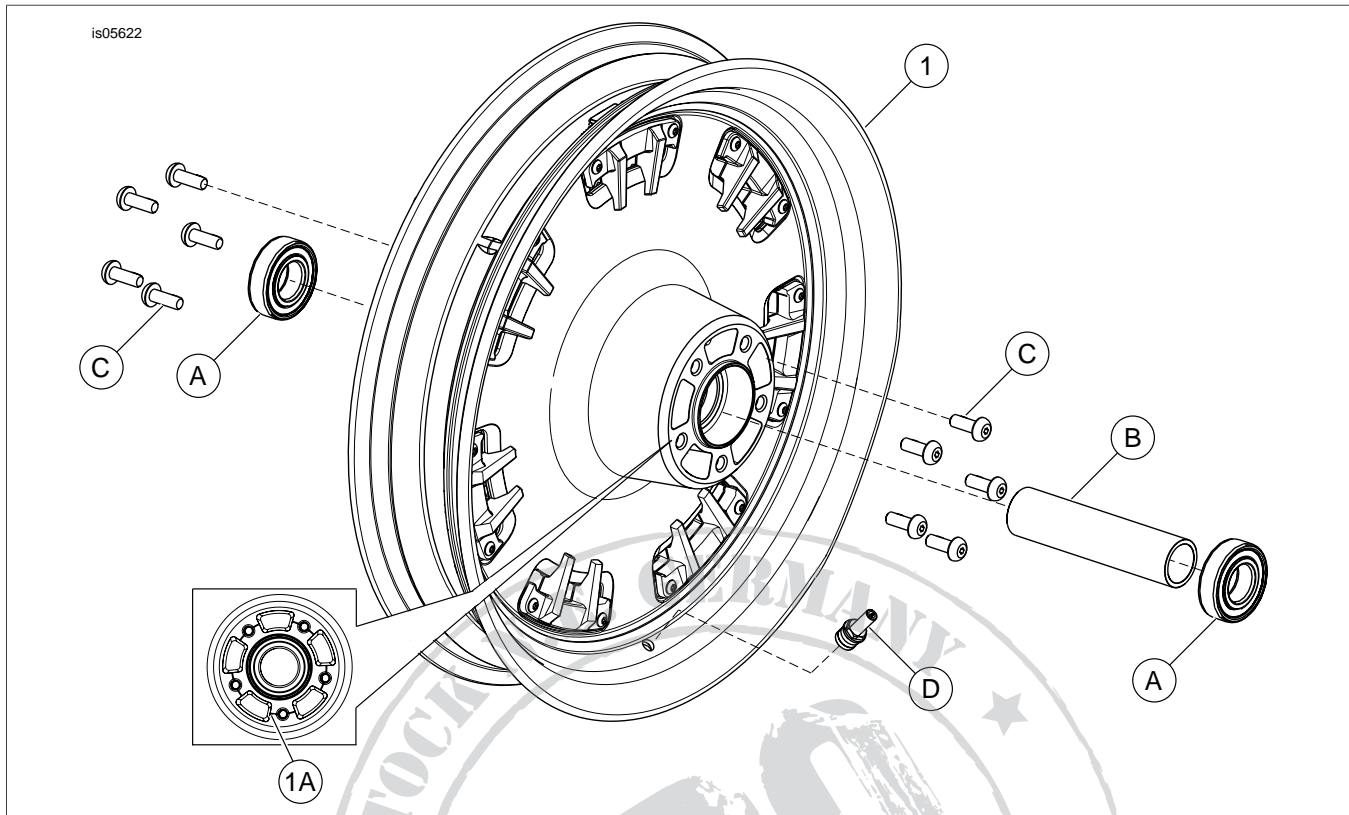

Figure 1. Service Parts: Fang Front Wheel
2. See Figure 1. Install valve stem assembly (D) on wheel. Refer to service manual.